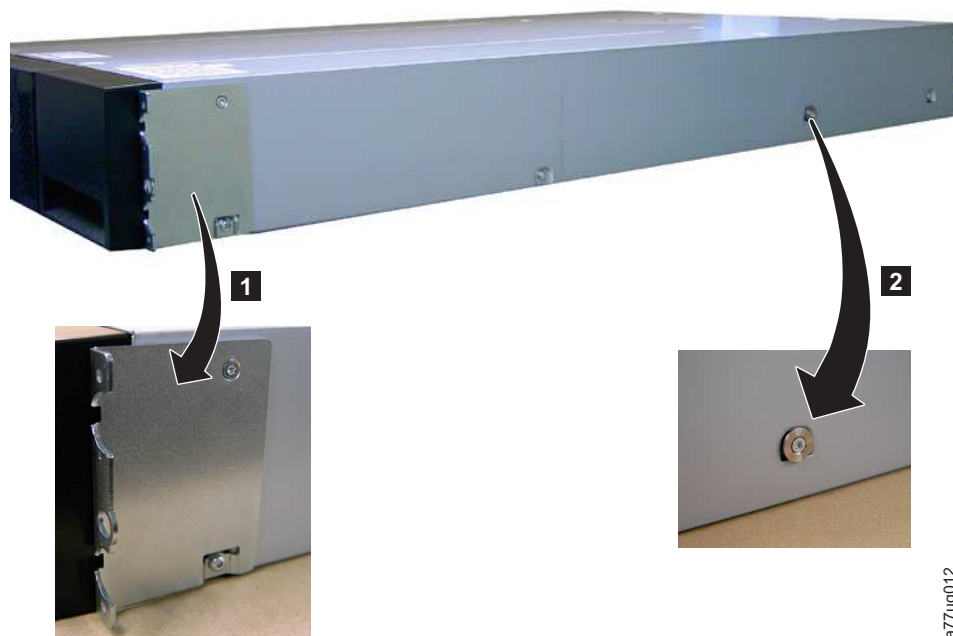

Figure 183. Mounting brackets and anchors for securing the library in a rack (one bracket and anchor on each side of the library)
1. Remove the mounting brackets (**1** in Figure 183 on page 246) and anchors (**2**) from each side of the defective library and install them on the replacement library enclosure.